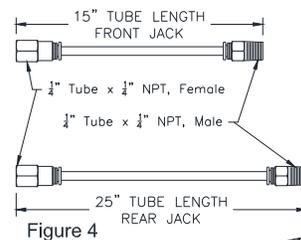

Figure 4
1. When coiled hoses are attached to the jacks with the clamps provided, cut the provided $1/4$ " OD plastic tubing into lengths shown in **Figure 4** and attach fittings by pushing onto end of tubing.